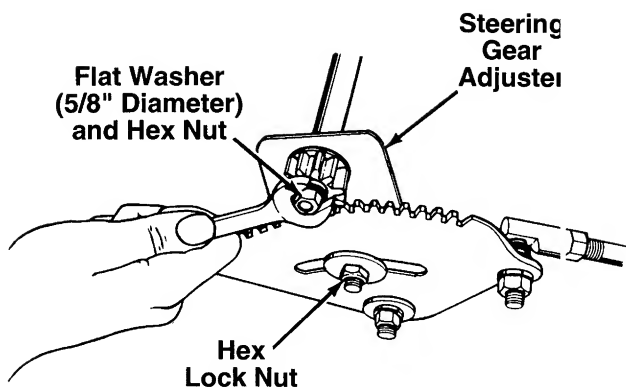

FIGURE 6.
11. Now tighten the hex nut which secures the pinion gear. See figure 6.
12. Make certain the hex lock nut which secures the steering segment to the steering gear support bracket (shown in figure 6) is tightened so there is no play between the two parts. Do not overtighten as the steering segment must be free to turn.